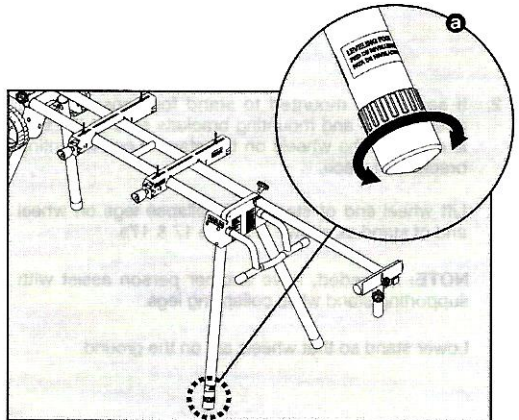

FIGURE 14
4. This stand is equipped with one adjustable foot to level stand on surfaces that may be less than level. Adjust as needed to stabilize stand. See Figure 14 & 14a.